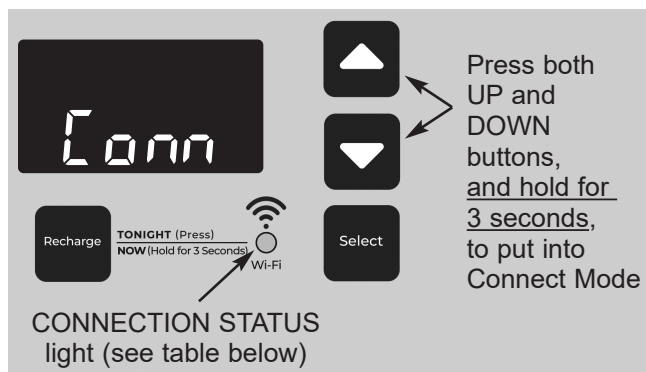

FIG. 30
3. On the water softener's front panel (see Fig. 30), press both the **△ UP** and **▽ DOWN** buttons, and hold them for 3 seconds.
4. Release the buttons when “Conn” appears in the display (See Fig. 30) and the connection status light begins flashing amber.